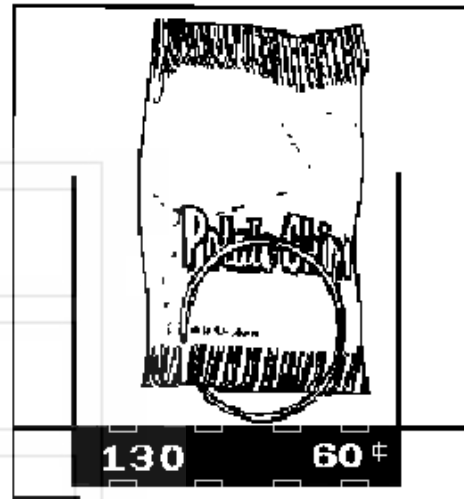

Figure 2: Placement of product on main product snack shelves and front end position of spiral.
**IMPORTANT:** Product must not be forced into the spiral spaces it should fit freely. If a product fits tightly, use a larger pitch spiral. The bottom of the product should be placed on top of the spiral wire that rests on the shelf surface (see Figure 2). The width of the product must be greater than the diameter of the snack spiral. If it is smaller, the product may fall through when it is in the front, ready to vend position.